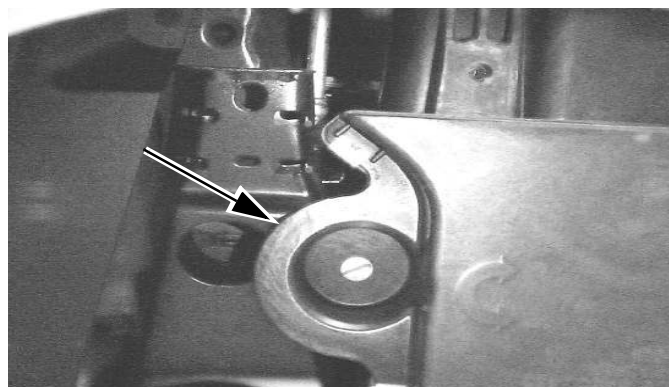

Figure 1
2. Remove the lower air dam located just beneath the radiator and frame rails. See Figure 1.